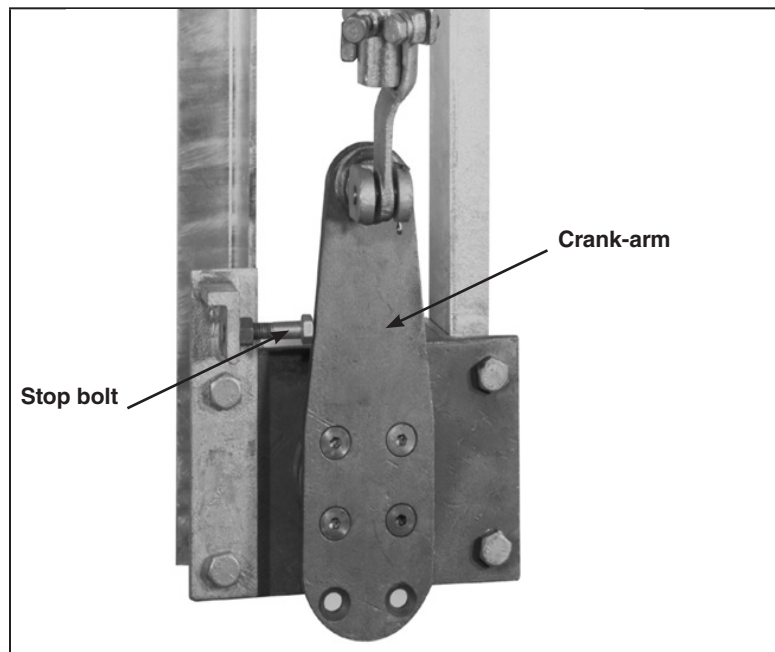

Figure 34. Adjust the outboard bearing crank-arm stop bolt.
- (d) With all three switch poles fully closed, the outboard bearing crank-arm must be in the overtoggle position and lie against its closed stop. See Figure 34. The outboard bearing closed stop may require adjustment to provide the correct amount of toggle; see the note on the erection drawing for the amount of toggle to be obtained.